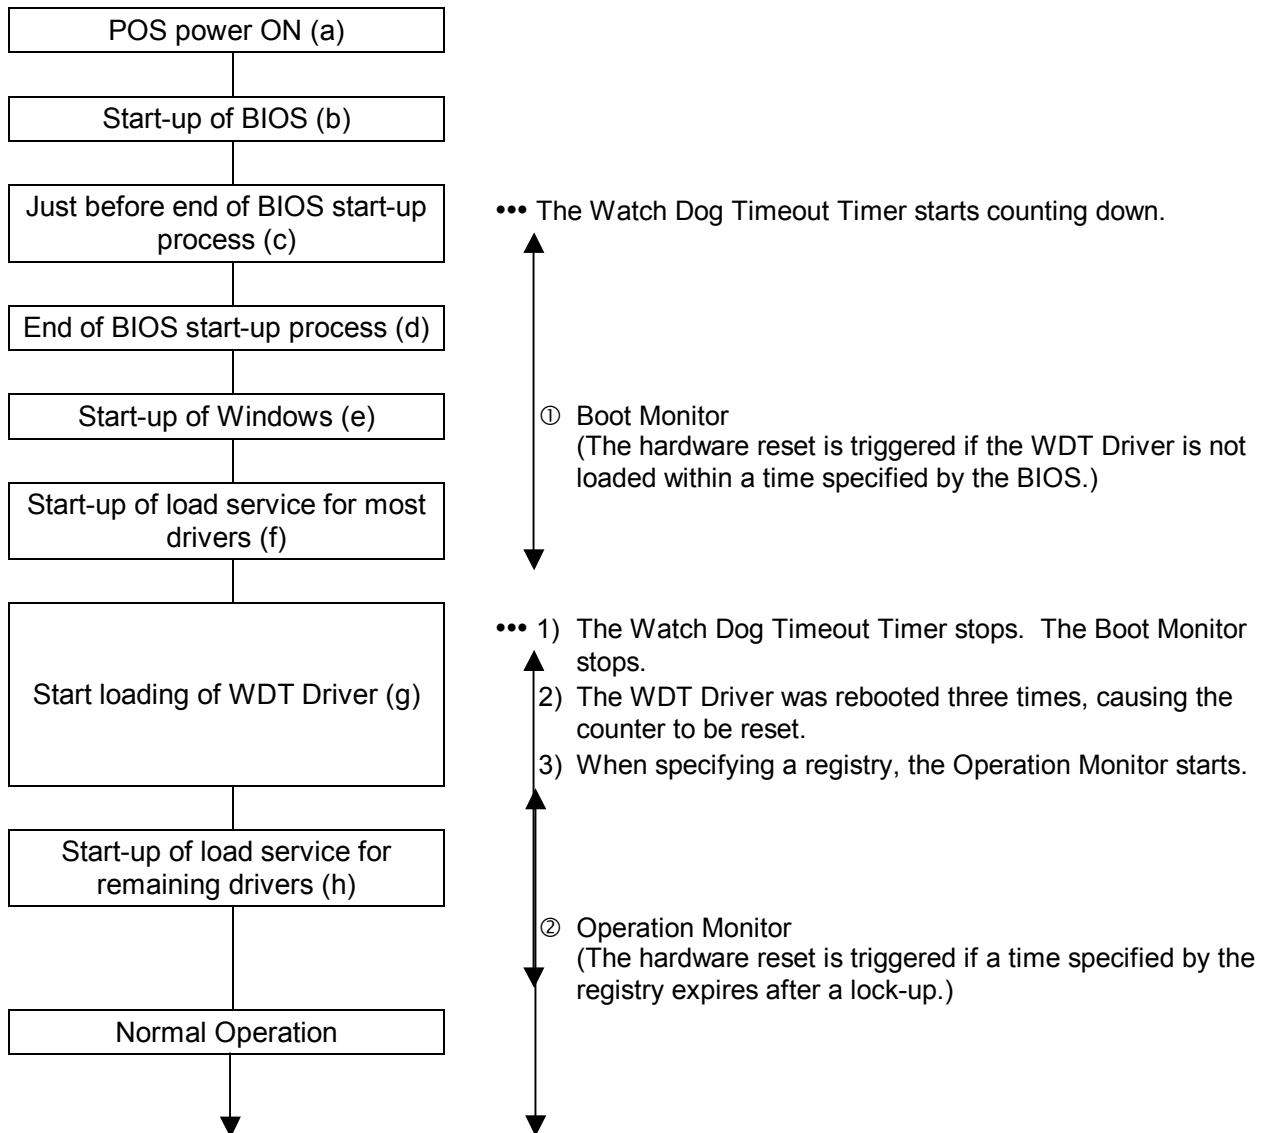

Fig. 2 Watch Dog Timer Flow
The Boot Monitor monitors a lock state of the POS terminal for a period from power-on to start-up of the driver service. (Period ① shown in Fig. 2)
When the Watch Dog Timer is enabled, the POS terminal is hardware reset if the WDT Driver cannot be loaded within a specified period of time because the Windows boot failed (Step (e) in Fig. 2) or the POS terminal entered in a lock state while a driver, which is to be loaded prior to the WDT Driver, was loaded.
After the most drivers are loaded and most services are started (Step (f) in Fig. 2), the WDT Driver is loaded (Step (g) in Fig. 2). If loading/starting such driver/service fails and the POS terminal enters in a lock state, the WDT Driver is not loaded and a hardware reset is triggered when a period of time, starting from a power-on and specified by the BIOS, expires. Please carefully determine this time so that the WDT Driver can be loaded within the specified period of time.
There are WDT Driver setup items in the registry. When constant monitor is enabled (by setting a value other than "0" to [TimeoutTimer]), the POS terminal is hardware reset if it enters a lock state because the WDT Driver stops its operation while the POS terminal is operating normally (Step (i) in Fig. 2).
If the Operation Monitor is not enabled, a driver or service to be loaded after the WDT Driver halts if the application enters in a lock state (locks up in Step (h) in Fig. 2)